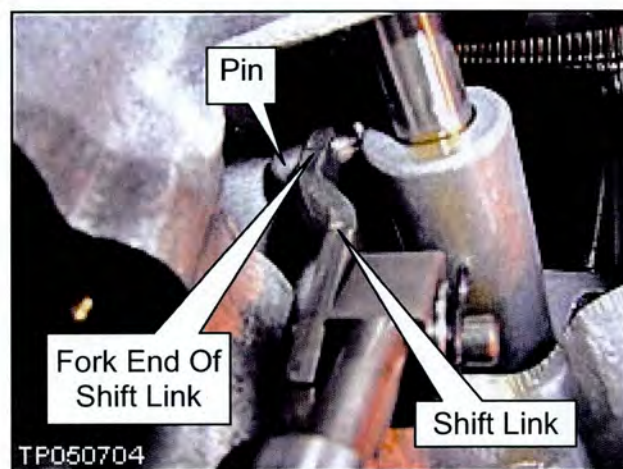

Figure 10
16. Carefully install the new valve body and shift link with the fork end of the shift link around the pin (see Figure 10).